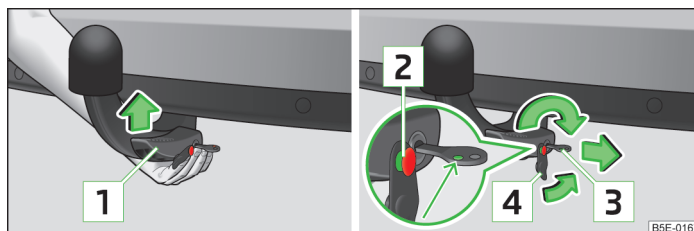

Fig. 154 Insert the ball rod/lock up the lock, and put the lock cover on
- Grip the tow bar **from underneath** » Fig. 154 and insert into the mounting recess until you hear it click into place » .